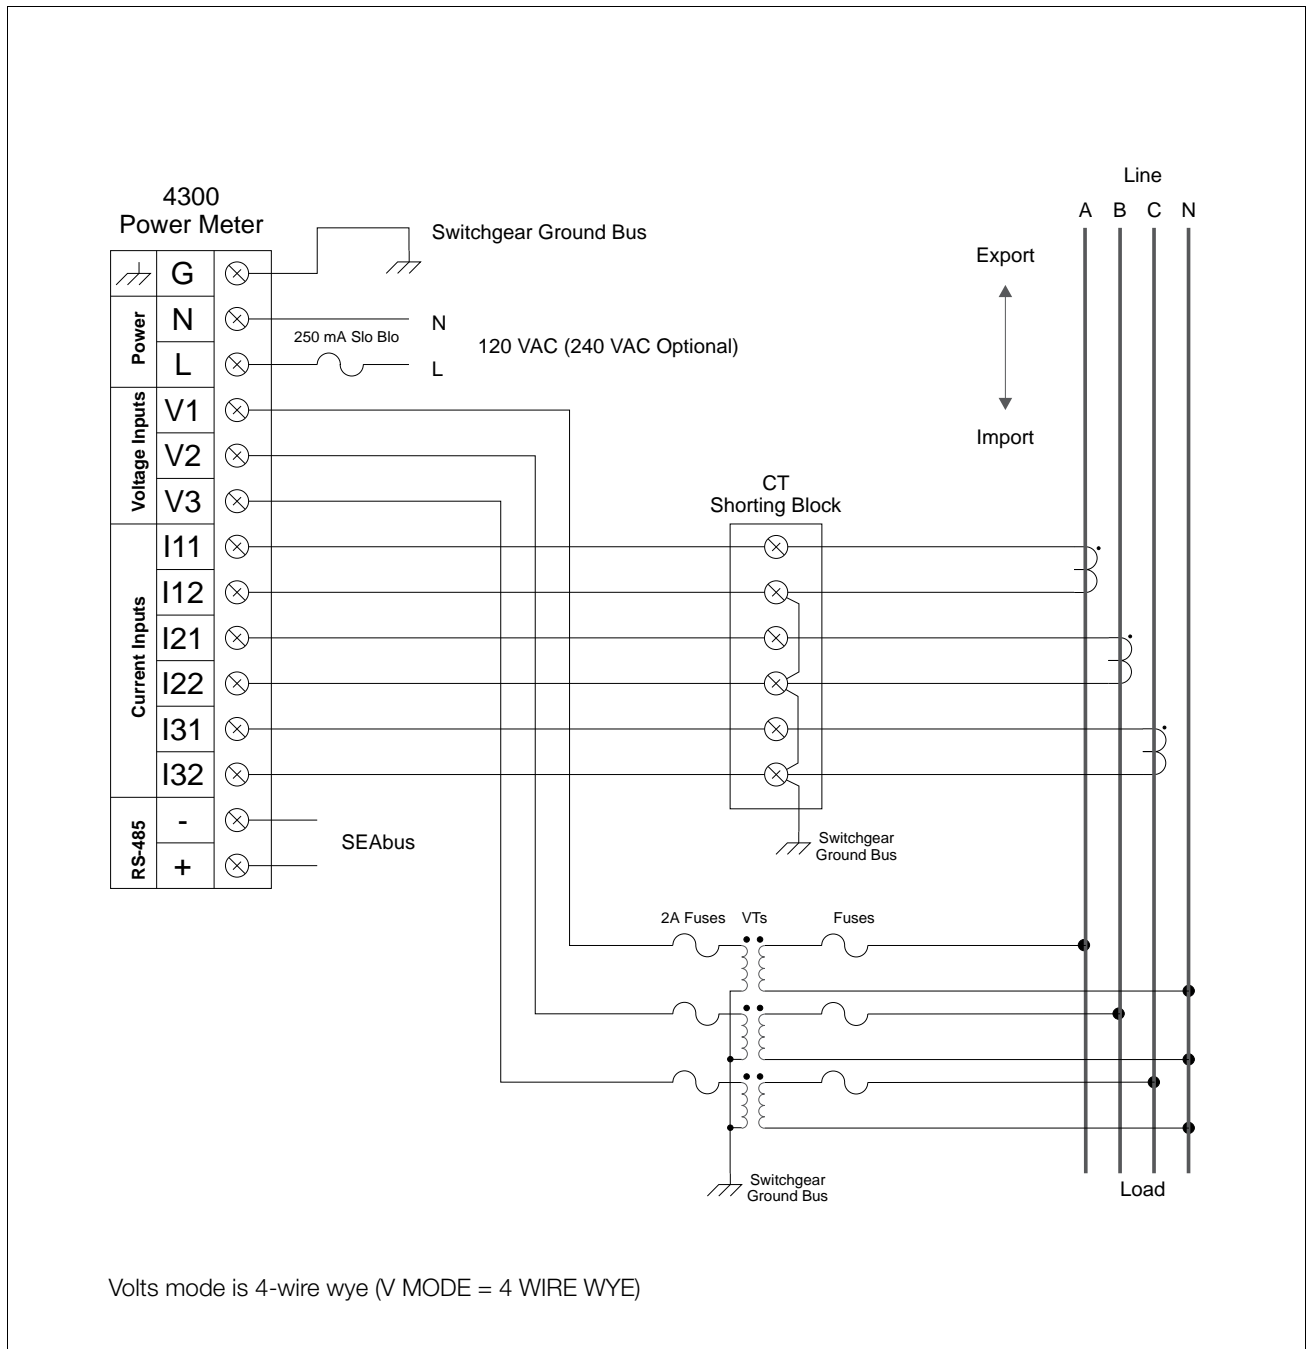
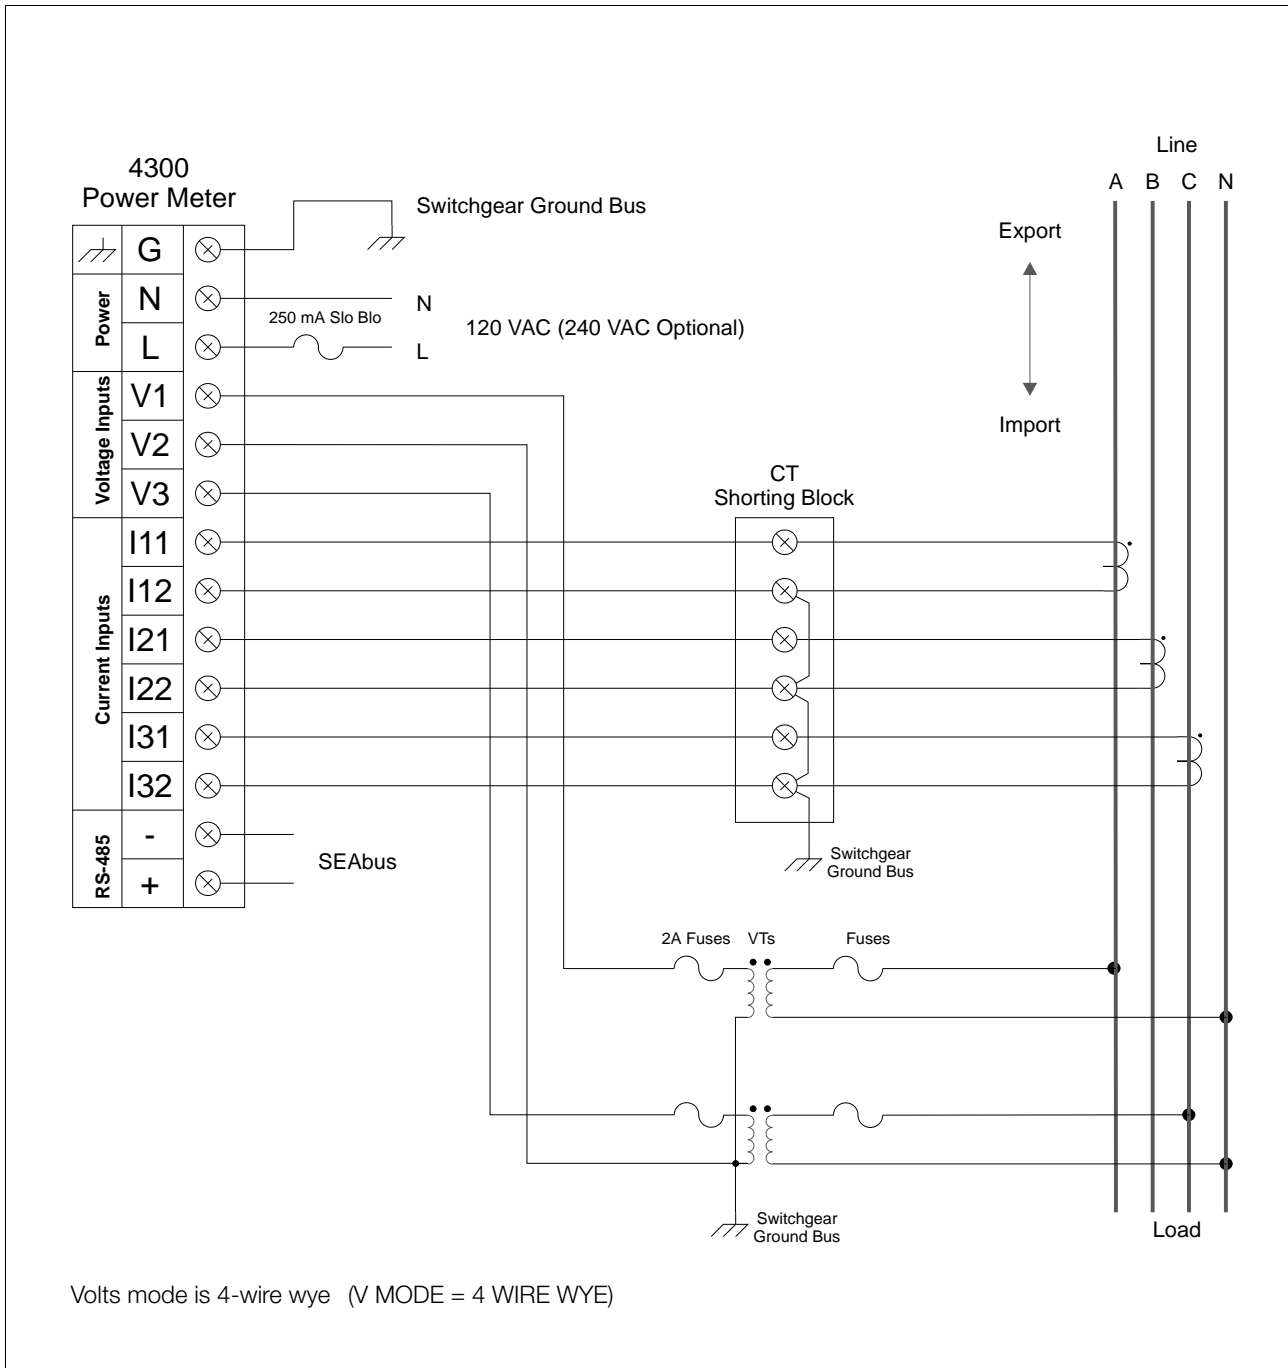

Figure 2.2 Four-Wire Wye, Three-Element Connection Using Three VTs
Figure 2.3 Four-Wire Wye, 2 1/2-Element Connection Using Two VTs, for Balanced Systems Above 347/600 VAC
- Four-Wire Wye, Three-Element Connection Using Three VTs (**Figure 2.2**)
- Four-Wire Wye, 2 1/2-Element Connection Using Two VTs, for Balanced Systems Above 347/600 VAC (**Figure 2.3**)
Figure 2.2 illustrates a three-phase, four-wire wye, three-element connection using three VTs. **Figure 2.3** illustrates a three-phase, four-wire wye, 2 1/2-element connection using two VTs. (Use this connection for balanced systems only.)